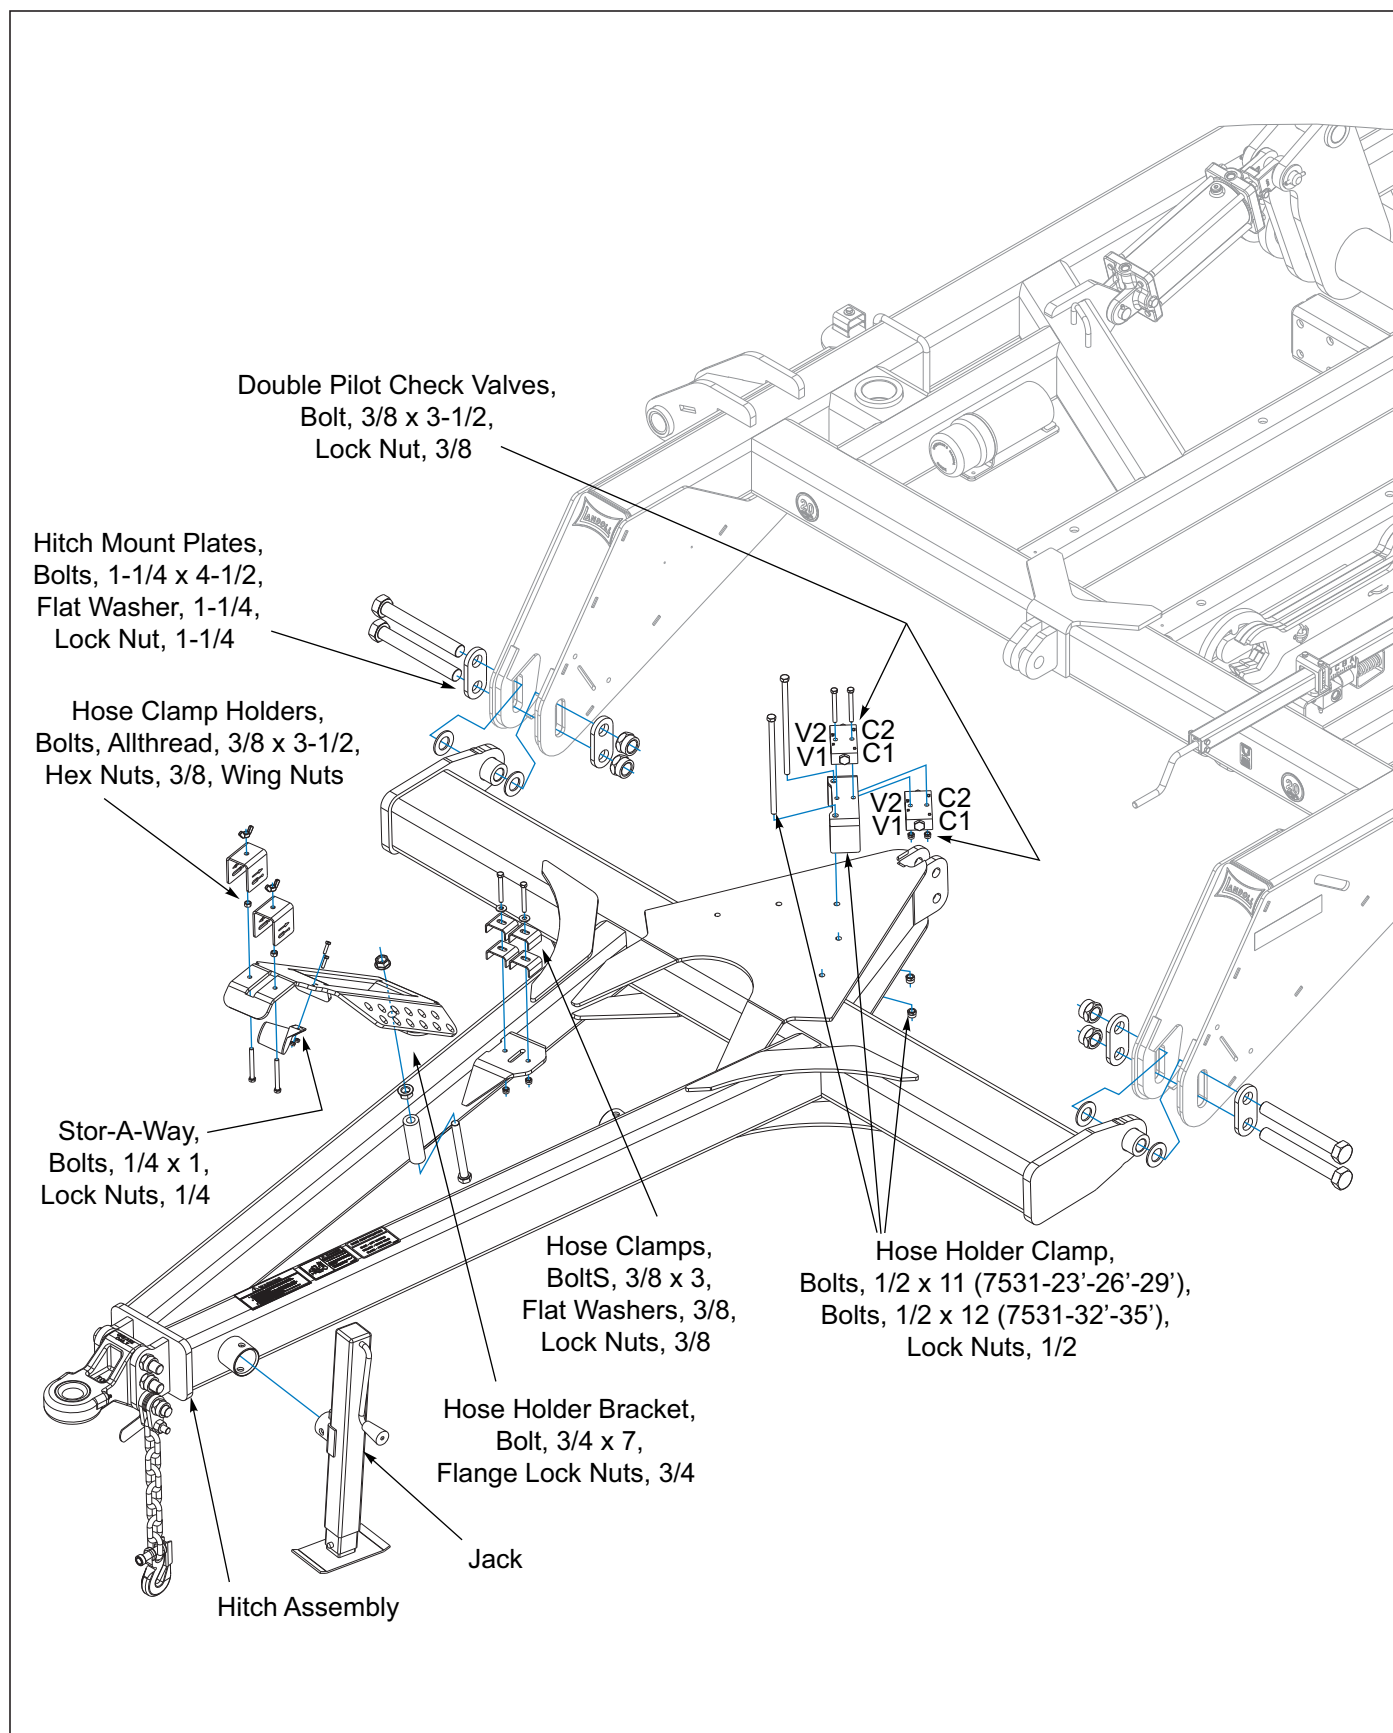

Figure 3-3: Hitch Assembly
1. Attach the hitch assembly, See Figure 3-3 to the front of the center frame using 1-1/4-7 x 10 bolts, 1-1/4 flat washers, hitch mount plates and 1-1/4 lock nuts.
8. Install the hose holder clamp over the two, holes on rear plate as shown, See Figure 3-3 using, 1/2 x 11 bolts (7531-23'-29'), 1/2 x 12 bolts (7531-32'-35') and 1/2 lock nuts.
9. Install a double pilot check valve on top and bottom side of hose holder clamp with port orientation as shown, See Figure 3-3, with 3/8 x 3-1/2 bolts and 3/8 lock nuts.